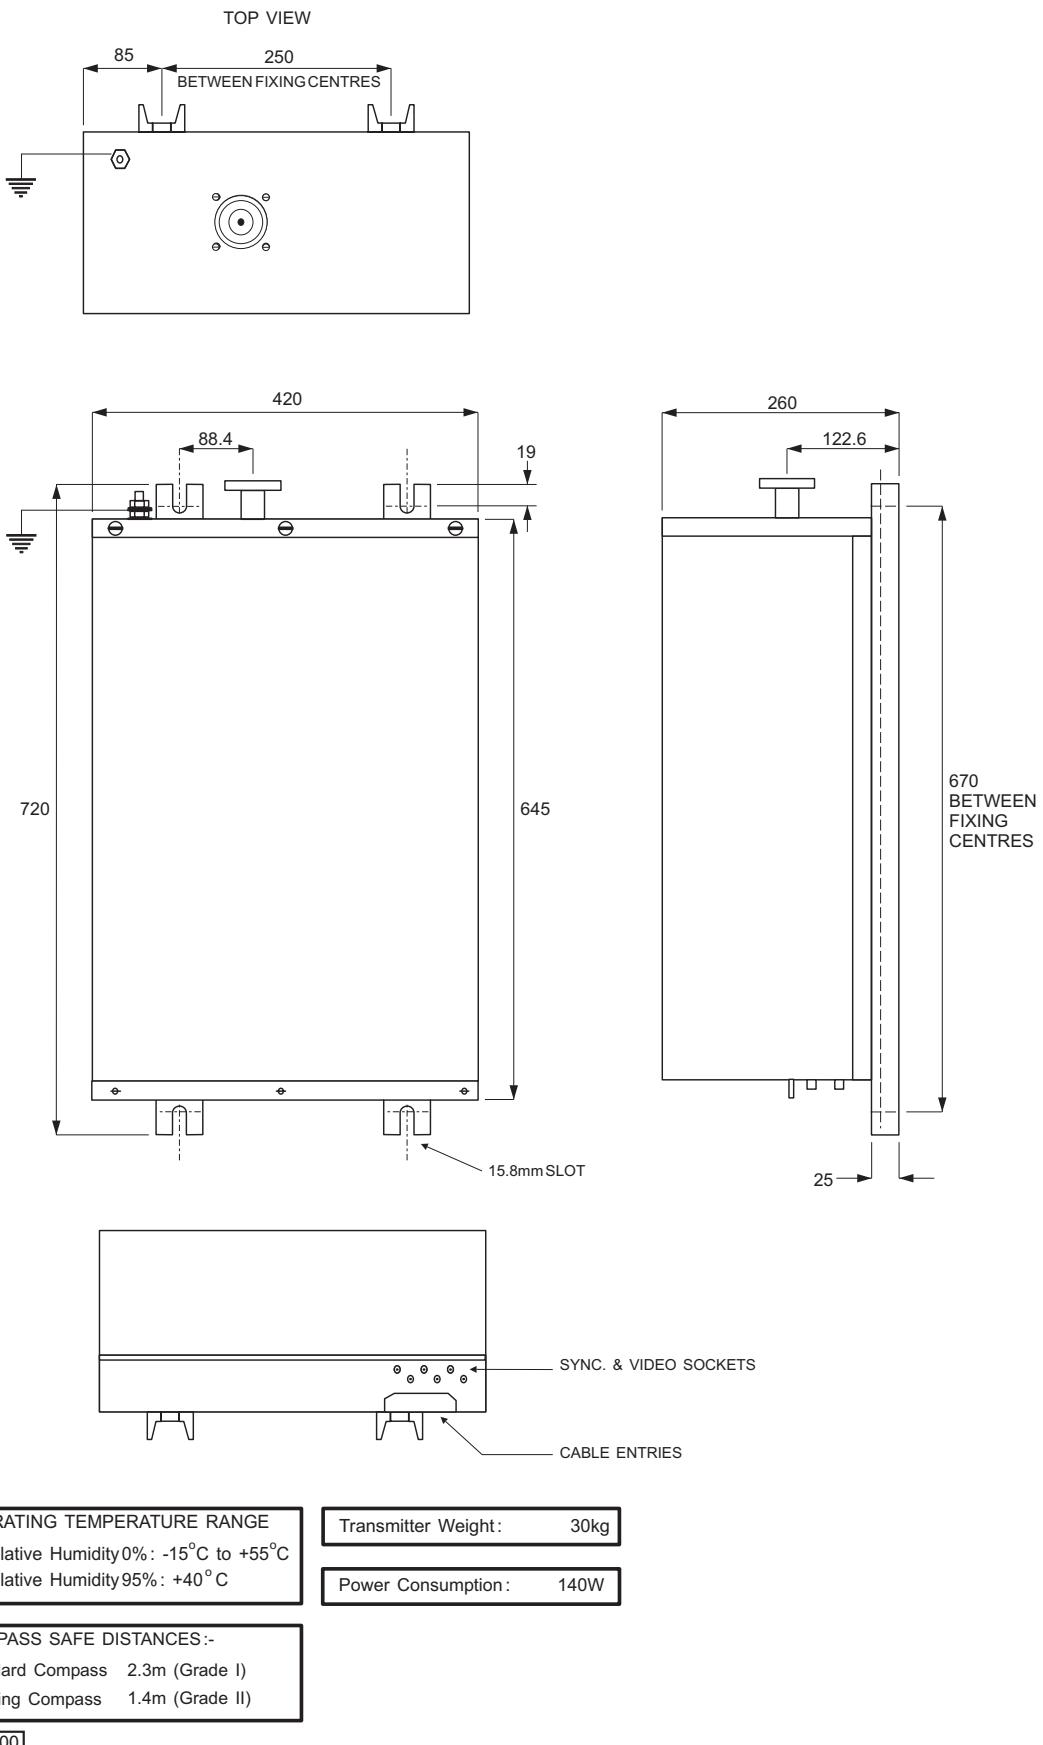

Figure 6e - Downmast Transceiver (CTX-A9): Installation Dimensions
- 44 Fit the transceiver to the securing bulkhead using the installation bolts supplied with the fitting kit. Refer to Figure 6e for dimensions.